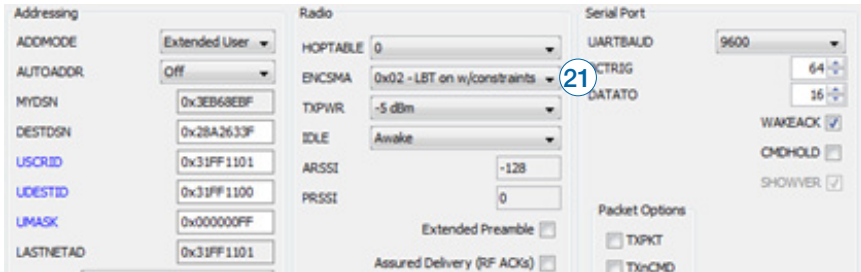

Figure 14: The Master Development System Software 868MHz Advanced Configuration Tab
21. When an 868MHz module is active, the ENCSMA becomes a drop-down menu that selects the LBT + AFA settings (Figure 14).